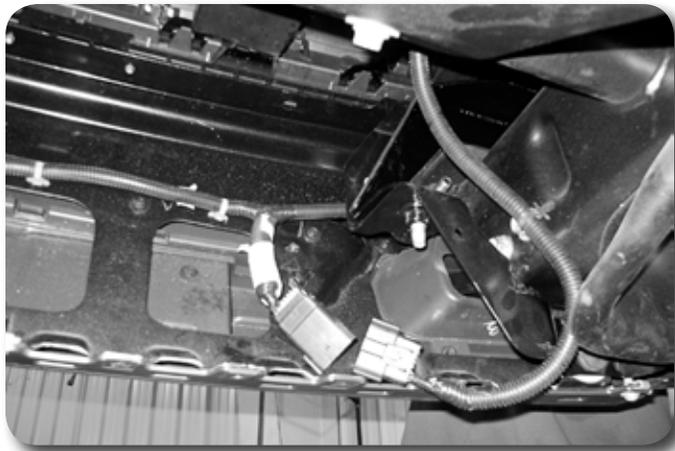

Figure 5
7. Disconnect the main fog light wiring connector. **Figure 5**